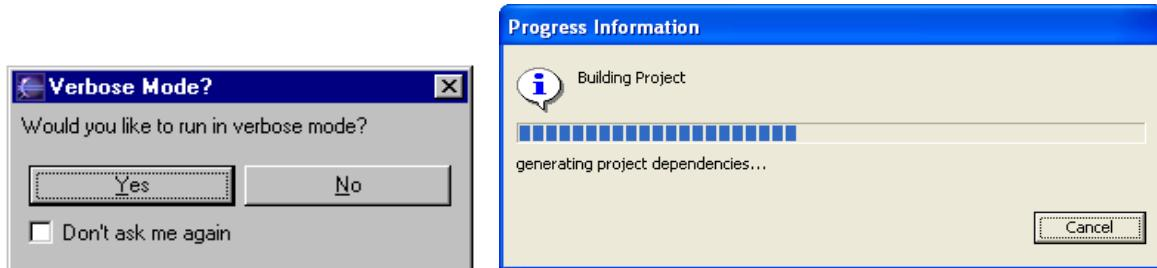
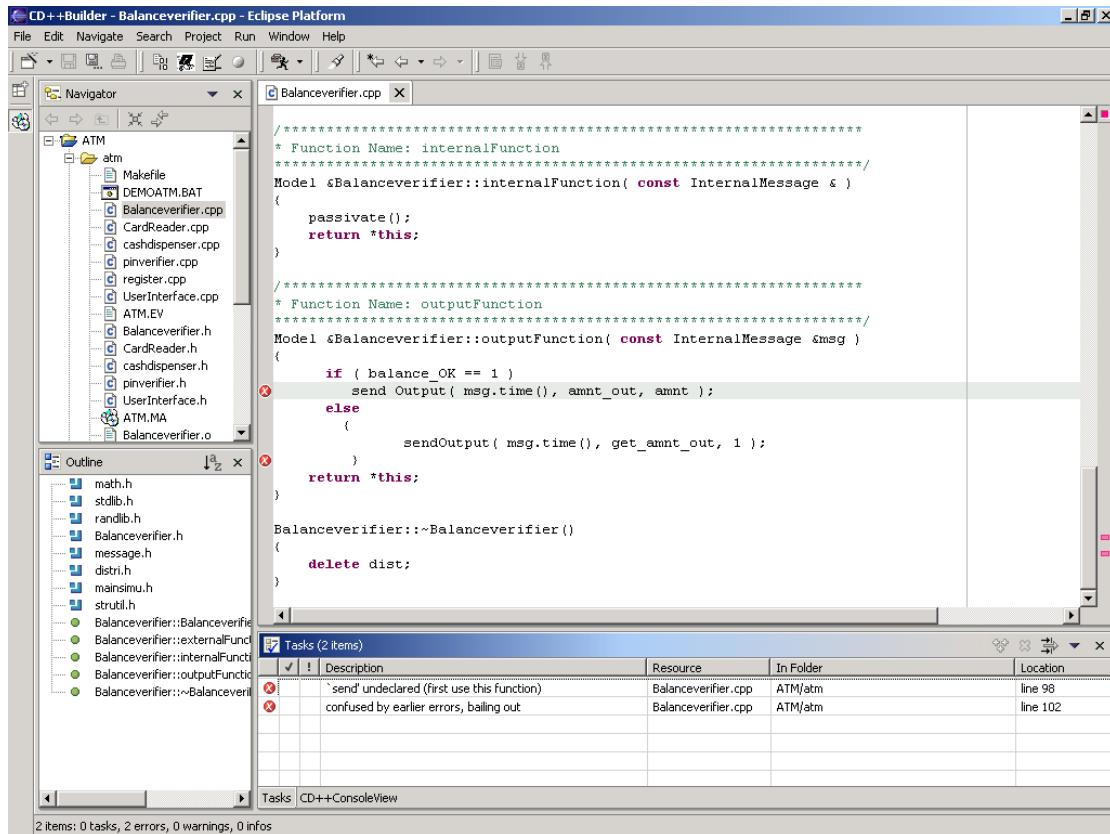

Figure 12: (a) Verbose mode panel (b) Progress dialog
Figure 13: Error display.
Step 7. Since the ATM model is a DEVS model, it needs to be compiled before simulating it. To compile the project, **click on one of the files in the project within the navigator panel** (in order to select the project we want to compile) and press the *Build* button . A new panel, shown in Figure 12(a), will appear asking the user if they would like to run in verbose mode (a mode that provides detailed info of the compiling project during compilation). Click "Yes" to run in verbose mode.
Step 8. A progress dialog will appear showing the progress Figure 12(b). Also, since the verbose mode was chosen, the console view will show the details of the compilation and will inform you if it was successful. If there are errors, you can see them on the console, as showed in the following figure [Figure 13]. Once the compilation is successful, we can start simulating the project.